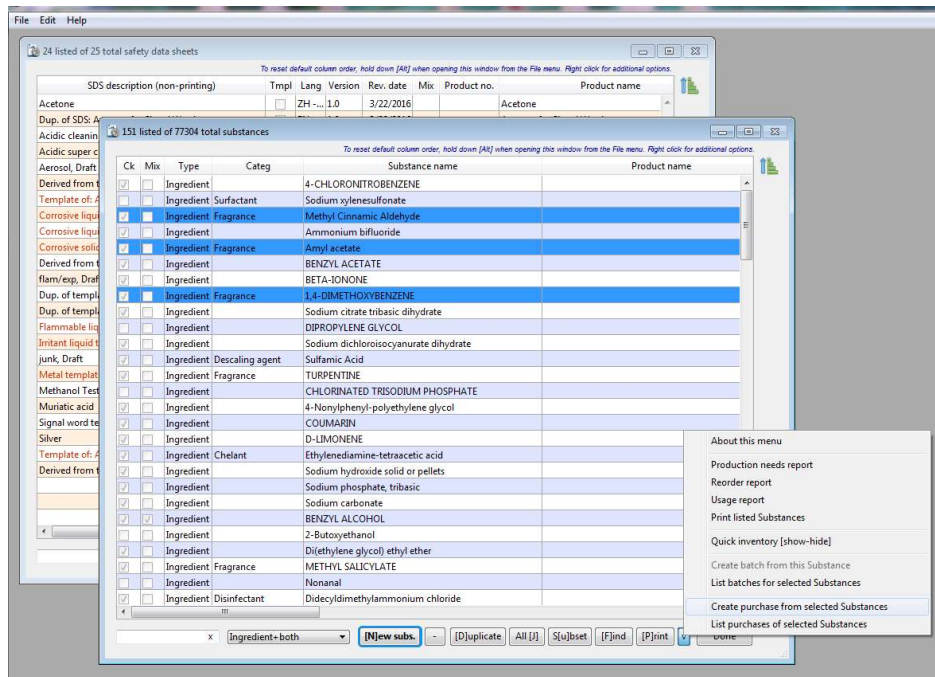

Fig. 2. Selecting Substances to purchase, from the Substances browse list.
3. Create a purchase record from a **selection of Substance records**. From the **Substances browse list**, select (highlight) the Substance(s) you wish to purchase, and then select **Create purchase from selected Substances**, from the drop-down menu next to the **[P]rint** button (Fig. 2). You can also right click on the highlighted record(s) to use this feature, but be careful not to de-select some of the highlighted rows.